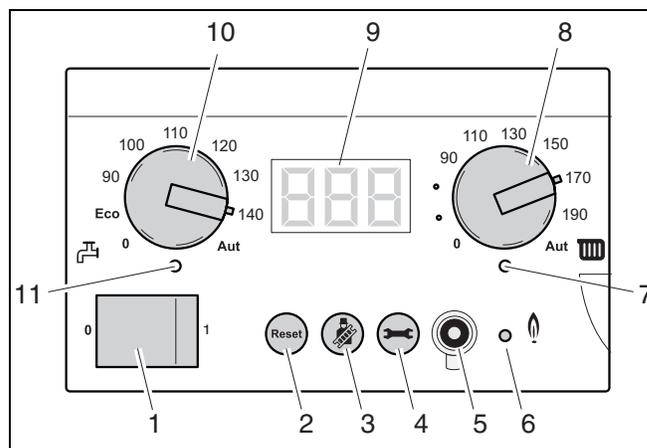

Fig. 69 BC10 basic controller
- Set the upper space heating water temperature limit for heating mode with the "space heating water temperature" knob (fig. 69, pos. 8); see table 15. This limitation does not apply to DHW preparation.